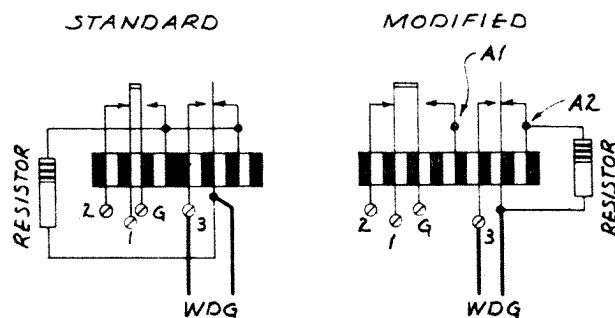

FIGURE 5
- c. Coin relay modified as shown in Figure 5 below.